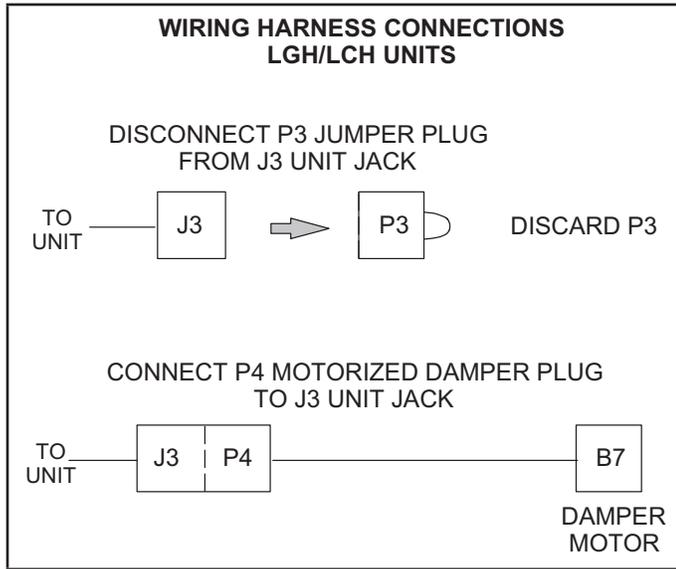
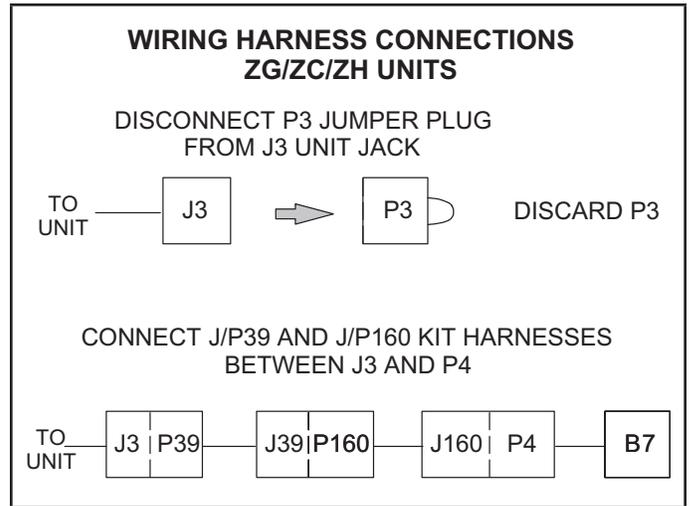

FIGURE 4
FIGURE 6
- 4 - Make harness connections as shown in FIGURE 4 through FIGURE 6.